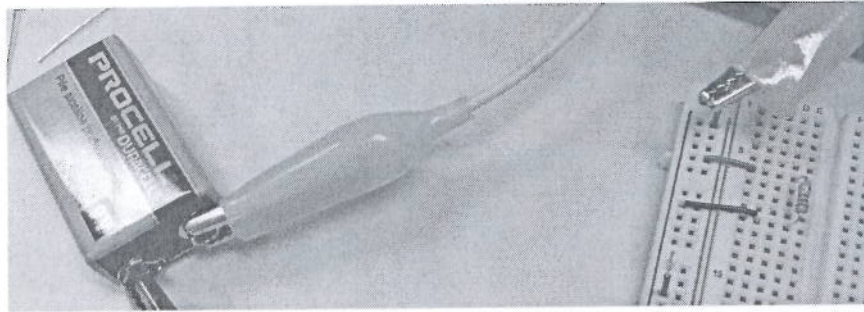

Figure 8: Exercise 1 circuit
2. Build the circuit (as seen in Figure 8)
- h. Take one pair of alligator clips and connect one clip to the (+) terminal of the battery and connect the other clip to the power supply wire, in the power rail of the breadboard (Figure 8)